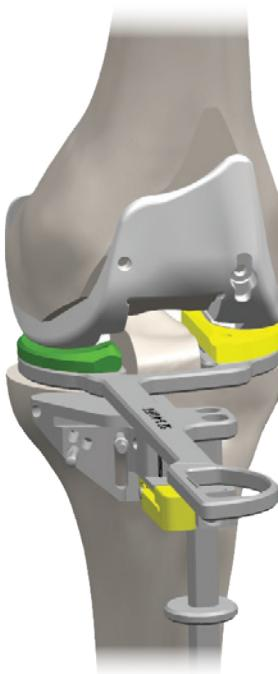

Figure 33
- 1 Select the full insert trial option that provided optimal medial balance. Gauge and ensure 1-2mm of medial and lateral extension laxity (Figure 33).